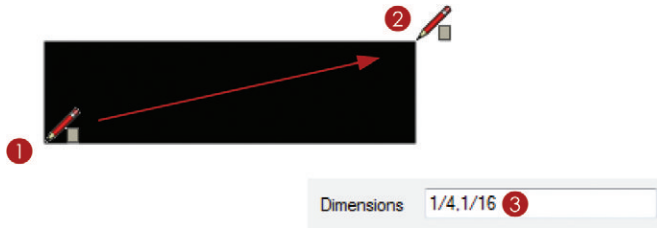

Figure 13.19 Draw a precise rectangle to start the graphic scale.
1. Activate the Rectangle tool, set the Fill to black, and turn off the Stroke. Click once to start the rectangle (Figure 13.19).